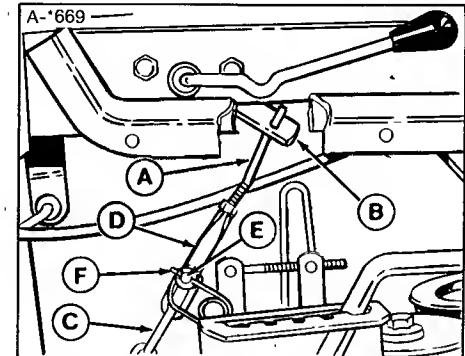

Figure 2. Lift Assembly
5. Place the lift lever fully forward so that lift arm (B, figure 2) is in lowest position.
6. Slide the mower under the tractor so that the lift chain (C, figure 2) is under the lift arm (B).
4. Unhook the lift chain (C, figure 2) from the clevis (D).